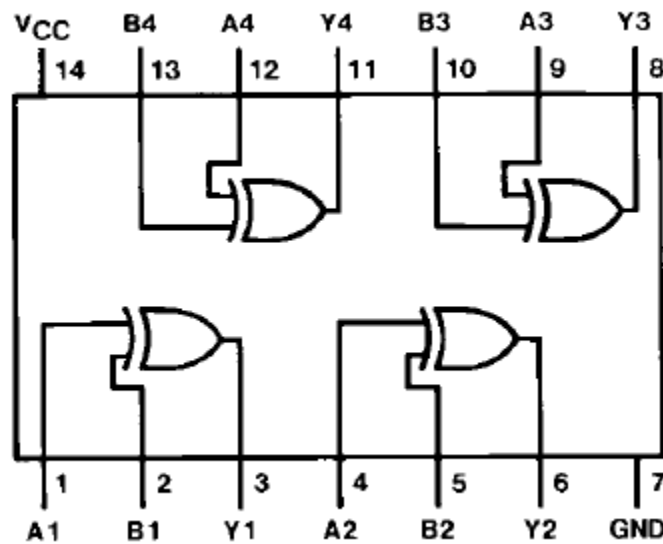

Figure 22
**Note:** There are four XOR gates in the 74LS86 IC. You can see them below in Figure 22.